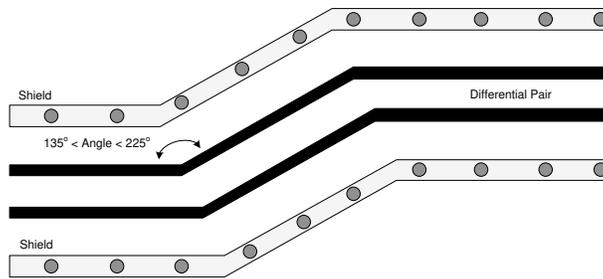

Figure 8-3. V-by-One Routing Example
- The bend angles associated with the differential signal pairs must be between 135° and 225° (see Figure 8-3).